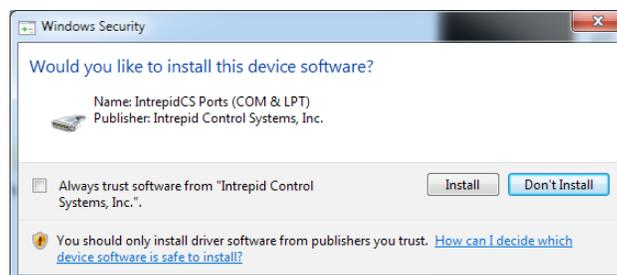

Figure 43: Windows Security Dialog Box.
10. **Install ICS Port Drivers:** Click to begin installing the ICS port drivers. If you see a Windows dialog like the one in Figure 43, click to authorize installation.